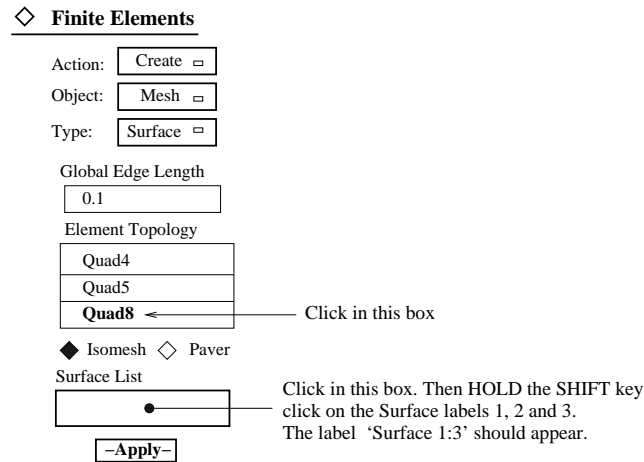

Figure 25: Create Mesh
- Change Action/Object/method to Create/Mesh/Surface (Figure 25). Click on the 'Quad 4' setting for 'Topology' and look through the available element types. For the present example choose the **Quad8** elements. This is the 8-noded quadrilateral element.